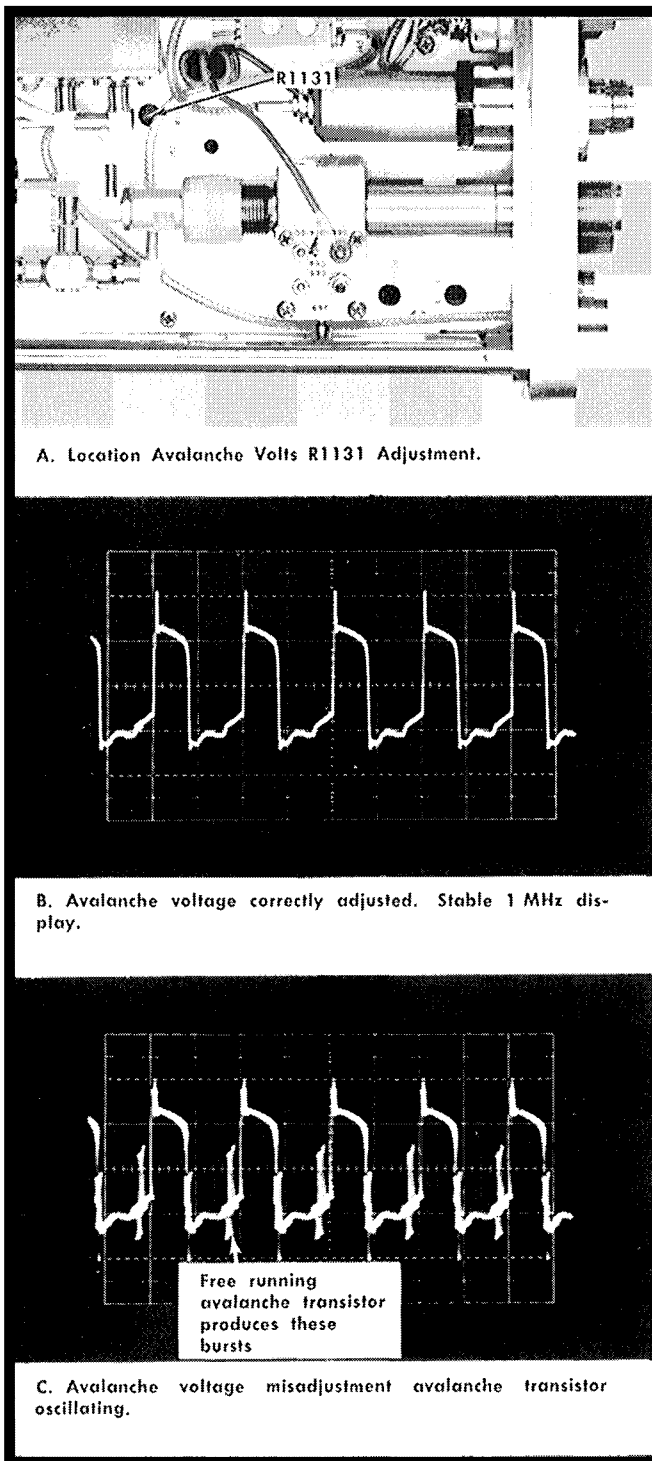

Fig. 6-33. Adjusting avalanche voltage.
- Adjust the Avalanche Volts R1131 (Fig. 6-33), from a fully ccw position, clockwise until the avalanche transistor is